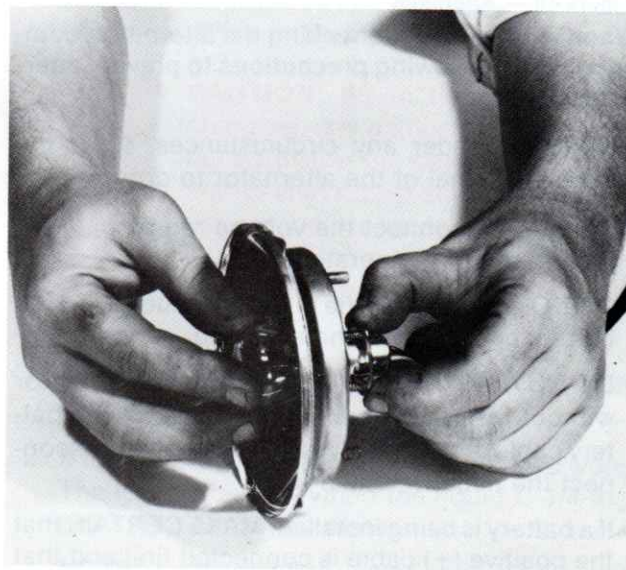

Figure 55 — Bulb Removal
9. Push in on spring retainer with one hand while twisting bulb with other hand to release bulb from retainer tabs, Figure 55.